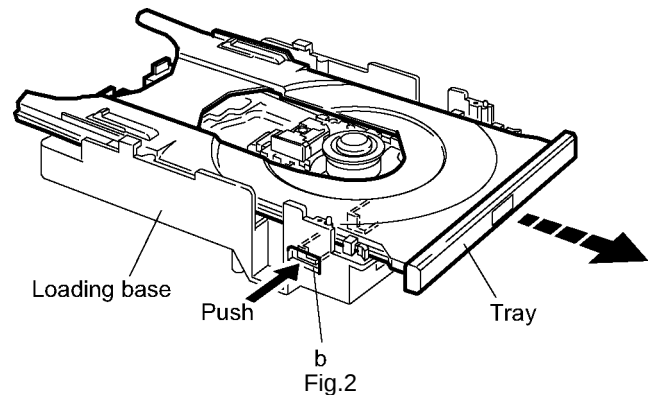

Fig.2
3.1.2 Removing the tray (See Fig2. and 3)